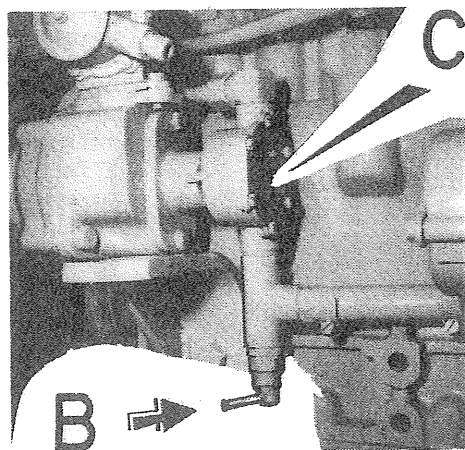

Fig. 44
Close the sea cock. Open the drain cock (fig. 44, pos. B) under sea water pump to drain the gearbox oil cooler (A).